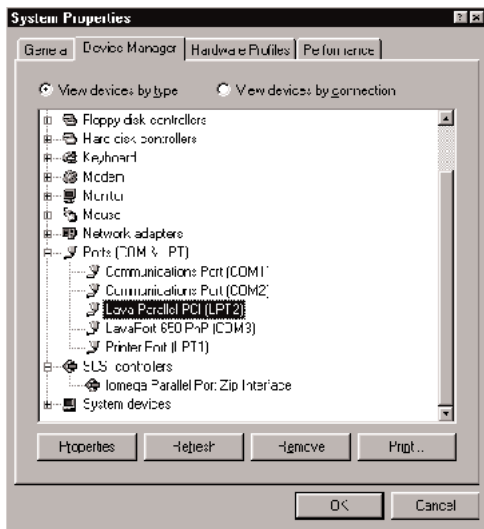

Figure 4-1. How the Adapter might appear in the Ports list.
2. Double-click on this sequence of elements: “My Computer,” “Control Panels,” “System,” “Device Manager,” “Ports.” The Adapter will appear in the Ports list as an entry similar to the one shown in Figure 4-1 on the next page. If you need to customize the Adapter’s settings, you can do so by clicking on its Ports-list entry and then clicking on Properties. (You won’t normally have to do this if